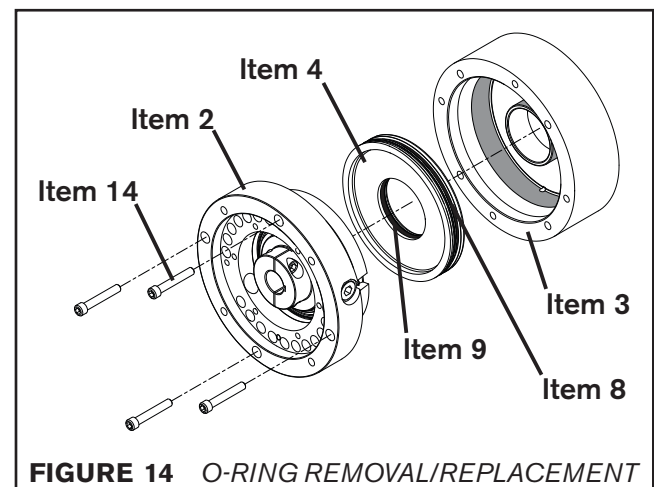

FIGURE 14 O-RING REMOVAL/REPLACEMENT
NOTE: Refer to **Figure 14**
NOTE: Refer to **Figure 14, 20**
3. Apply a thin film of O-Ring lubricant to the inside surfaces of Air Chamber (Item 3) that come in contact with O-Ring Seals (Items 8 and 9). Air Chamber/O-Ring Contact Surfaces are shown shaded gray in **Figures 14 & 20**.